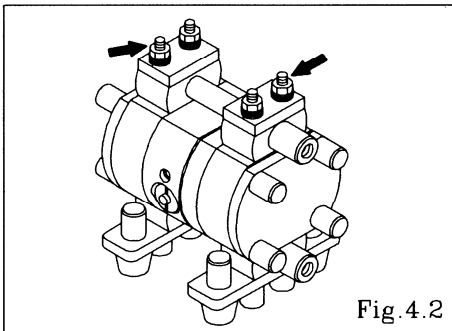

Fig. 4.2
- Remove the 4 retainer nuts from the upper side of the upright tie rods, and remove the reinforcement plate, O ring (DP-25F, DP-38F) and out manifold. [Fig.4.2]